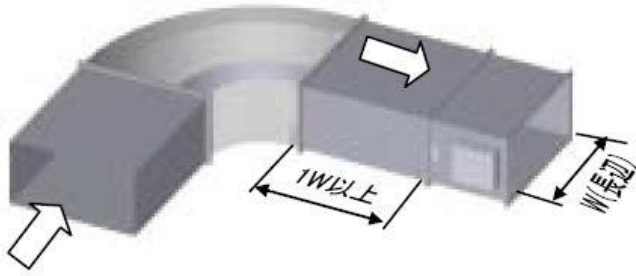

fig.4
④ If straight pipe(rectifier) can not be applicable when elbow exists upstream, apply elbow with guide-vane equipped internally(fig.4). ※The unit cannot be connected to elbow duct directly.